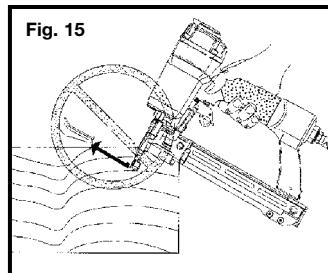

Fig. 15
- **Fire fasteners into work surface only:** never into materials too hard to penetrate. (Fig. 15)
- **Do not drive fasteners on top of other fasteners,** or with the tool at too steep an angle: the fasteners can ricochet causing personal injury. (Fig. 15)